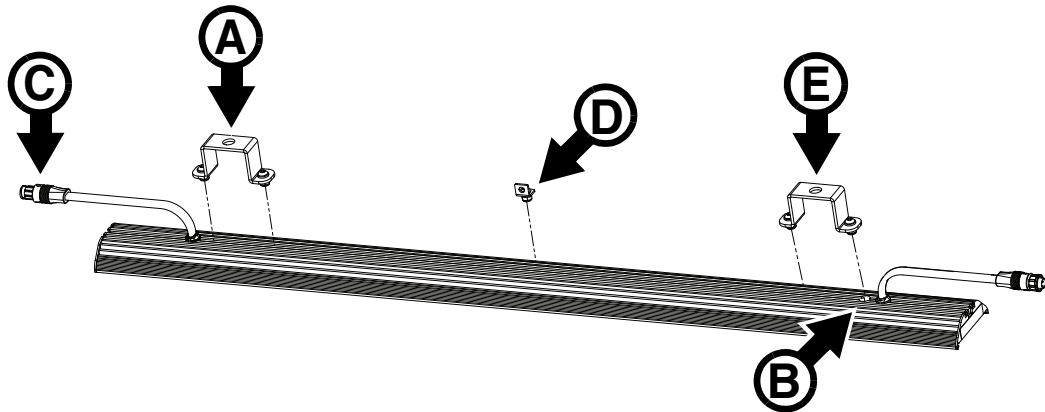
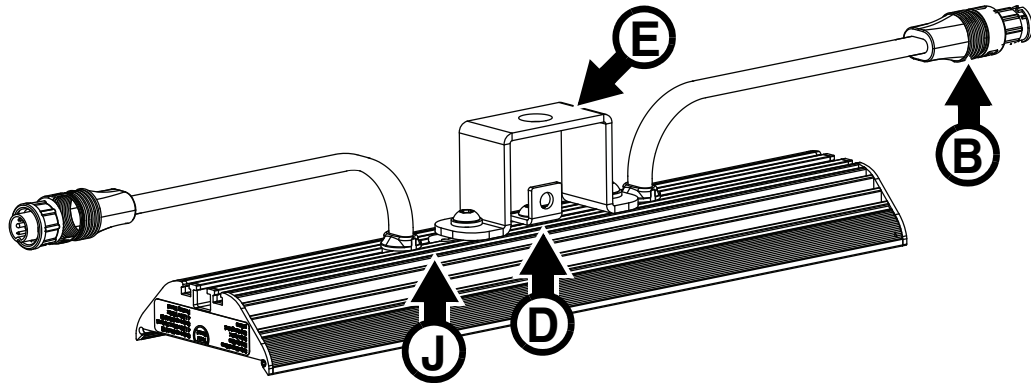

Figure 7: Installing brackets on a 1000 mm fixture
Figure 8: Installing brackets on a 320 mm fixture
1. See Figure 7. Place the fixture with the LEDs facing downwards on a surface that will not scratch or damage the fixture.
1. See Figure 8. Place the fixture with the LEDs facing downwards on a surface that will not scratch or damage the fixture.
5. Arrange the brackets so that they are in the center of the fixture as shown in Figure 8, then tighten the self-locking nuts on the mounting bracket and the Allen screw on the safety cable attachment bracket to a torque of 8 Nm so that the brackets are clamped onto the fixture.
See “Low-profile half-coupler rigging clamps” on page 16. You can install these clamps following the above procedures for installing sliding brackets. Install half-coupler rigging clamps as close as possible to the positions for sliding brackets shown in Figure 7 and Figure 8.
2. Install brackets as shown in Figure 8 on page 18, but also install two parallel couplers, one on either side of the sliding bracket in the center of the back of the fixture. Install the sliding bracket and safety cable attachment bracket close to the center of the fixture and the parallel couplers close to the ends of the fixture. Fasten the items to the fixture by tightening the screws provided or bolts.